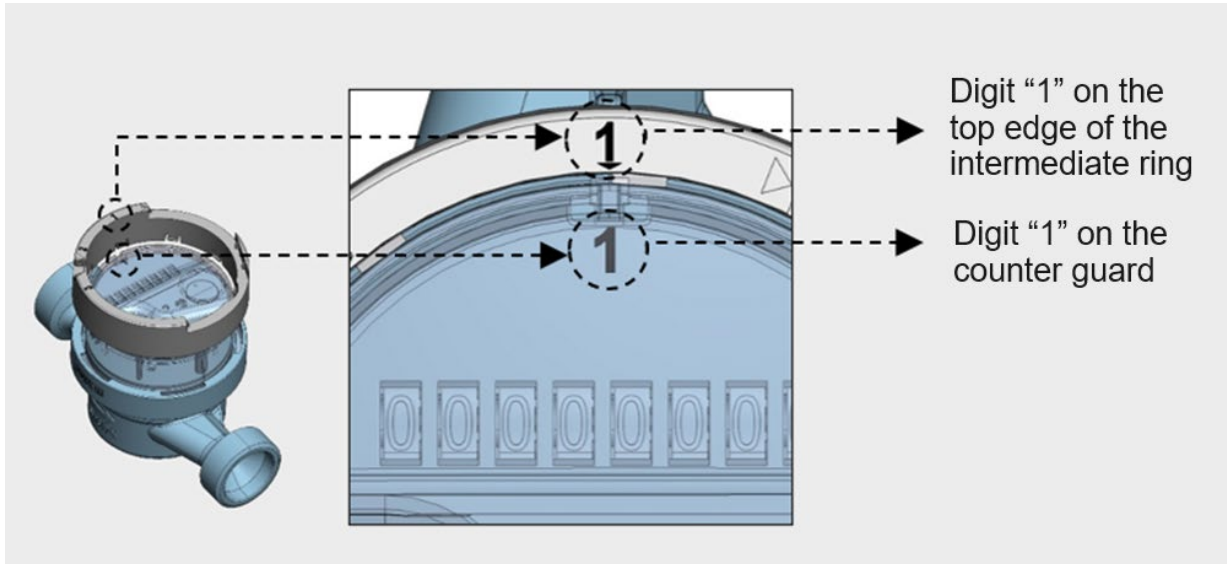

Fig. 9. Positioning the intermediate ring on the counter guard
2. Installation of the pre-assembled intermediate ring + locking ring set on the counter guard should start by positioning the digit "1" on the intermediate ring in relation to the digit "1" on the counter guard, as shown in Fig. 9.